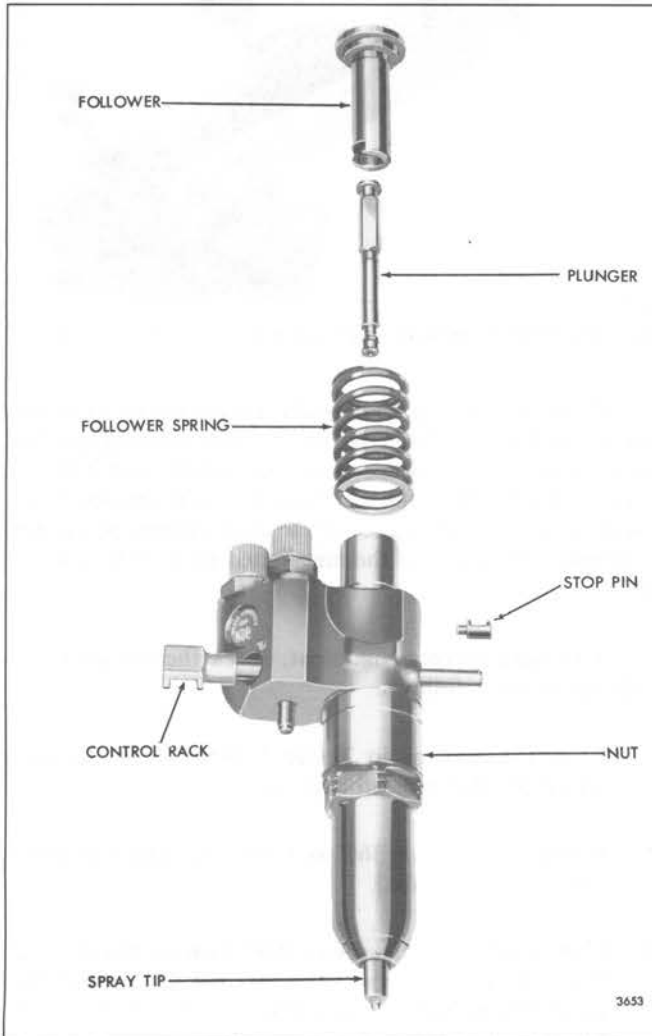

Fig. 34 – Injector Plunger, Follower and Relative Location of Parts
26. Refer to Fig. 34 and slide the head of the plunger into the follower.